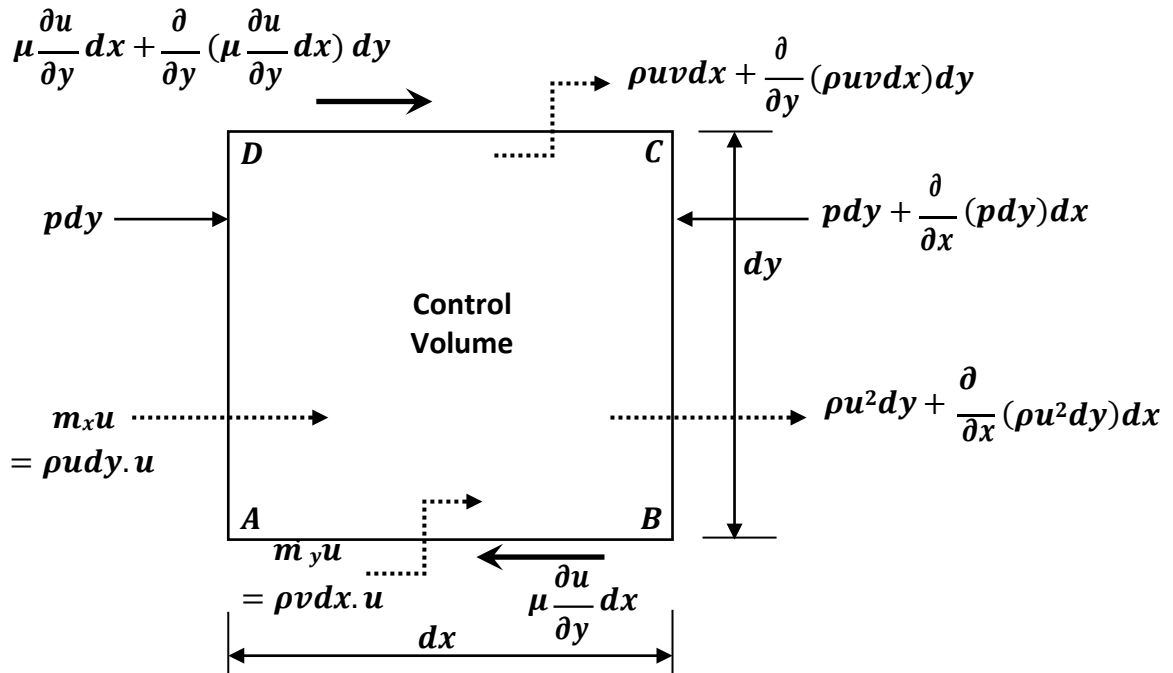

Fig. 7.8 Force and momentum balance for control volume
- For a 2-D infinitesimal control volume ($dx \times dy \times \text{unit depth}$) within the boundary layer region, the viscous forces acting along with the momentum of fluid entering and leaving the elementary volume have been indicated in Fig. 7.8.